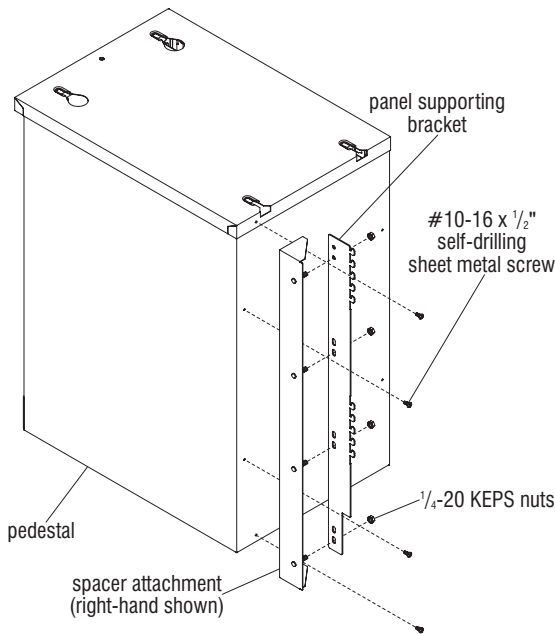
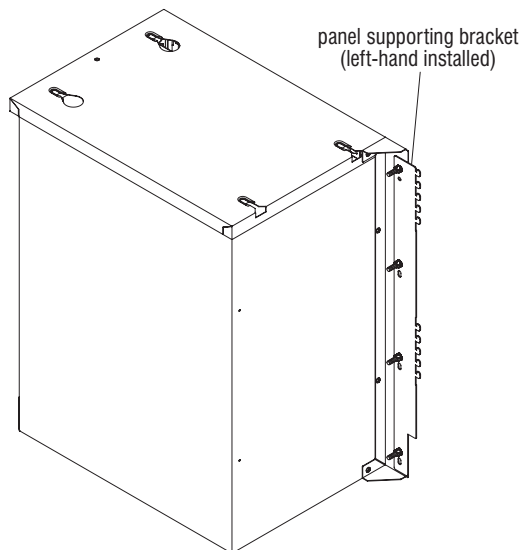

Figure 4
Figure 5
1. Locate the spacer attachment along the top and side edge of the pedestal as shown (Figure 4).
Note: For right-hand installations, align the spacer with the right side of the cabinet with the studs facing left (Figure 4). For left-hand installations flip the spacer over and align the bracket on the left side of the cabinet with the studs pointed right (Figure 5).
2. Using the four #10-16 x 1/2" self-drilling sheet metal screws provided, carefully secure the spacer to the cabinet (Figure 4).
3. Attach the panel supporting bracket to the spacer. Secure to the threaded studs on the spacer with the four 1/4-20 KEPS nuts provided (Figure 4).